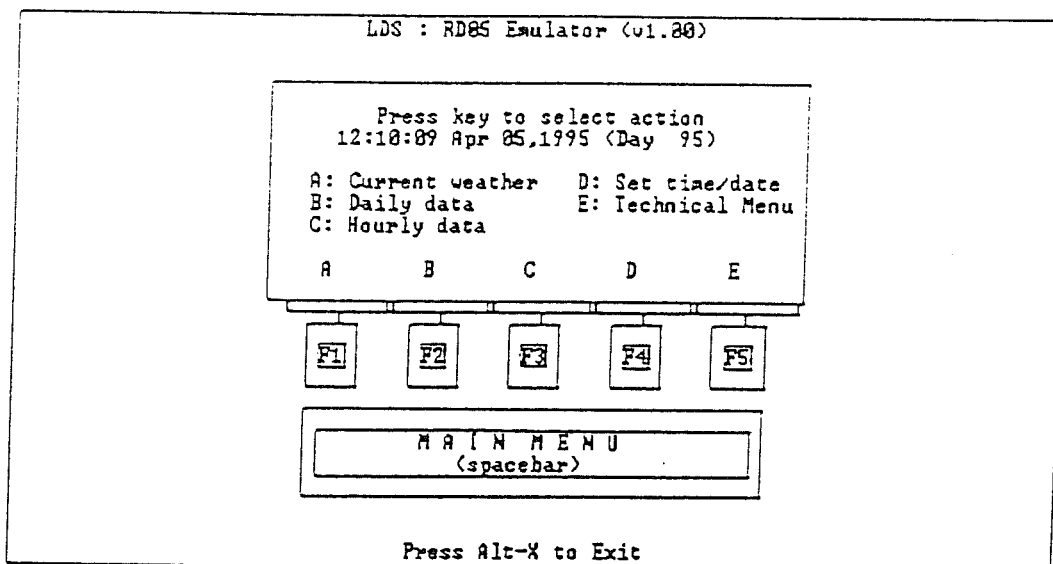

Figure 7-3
5. A list ("menu") of choices will appear as shown in Figure 7-3. Note that the row of Function key designations now has a letter above each key. For example, the key on the left (F1) has "A" above it. Pressing this key on your computer keyboard will give you the "A" option from the list, which is the current weather at the site.
1. From the main menu (Figure 7-3), select option "0: Set Time" by pressing the F4 Function key on your keyboard.